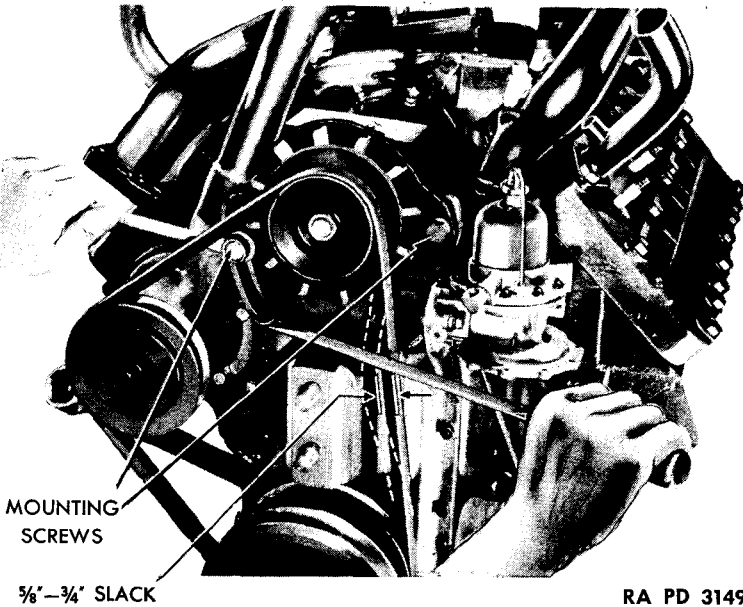

Figure 61 — Adjusting Generator and Water Pump Belt
c. Adjust Generator and Water Pump Belt. Reaching through engine compartment rear doors, loosen generator mounting bolts. Raise or lower generator and support assembly by prying with a large screwdriver until there is between $\frac{5}{8}$ - and $\frac{3}{4}$ -inch slack in belt, measured by pushing inward midway between the crankshaft and generator pulleys (fig. 61). Tighten generator mounting bolts and check adjustment. **CAUTION:** *Always turn master battery switch "OFF" before working on belts.*